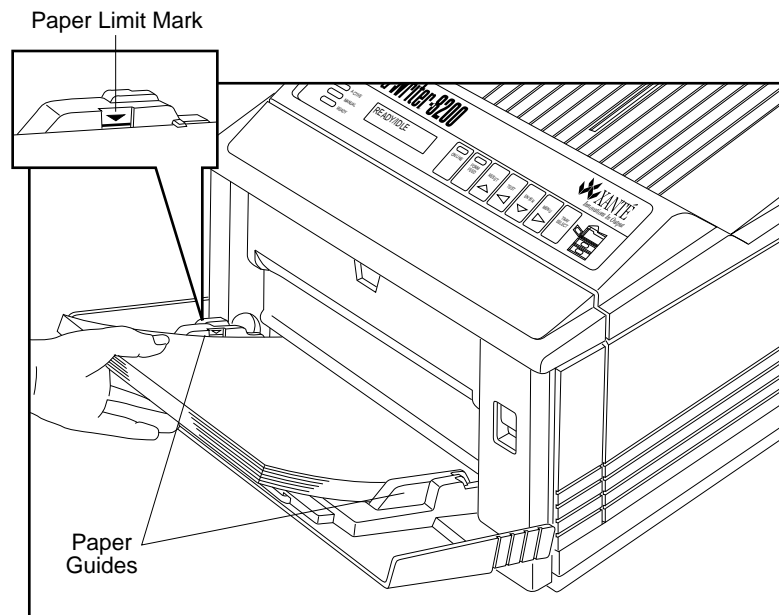

Fig. 2.16 Load the Fold Down Tray
- Slide the paper printing side down into the fold down tray (fig. 2.16).
Caution: Make sure the paper stack does not exceed the upper paper limit marked on the tray (fig. 2.16). Overloading the tray will cause paper to jam.
- Adjust the paper guides on each side so they rest lightly against the paper without causing it to buckle (fig. 2.16).